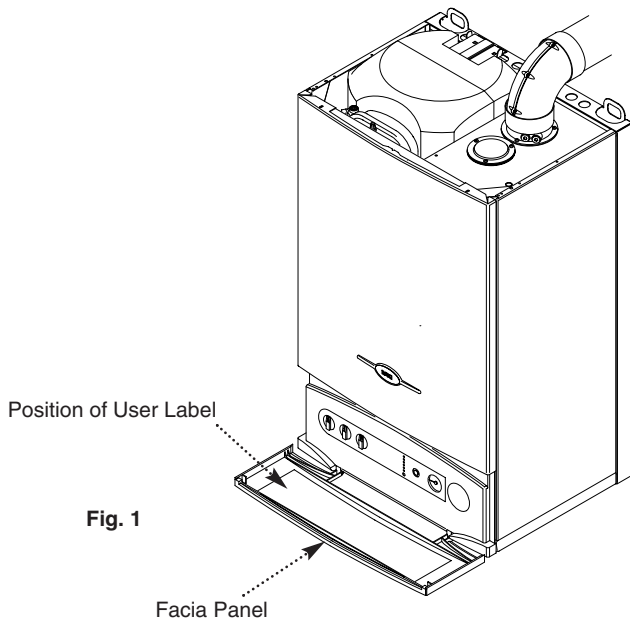

Fig. 1
6. A label giving details of the model, serial number and Gas Council number is situated on the rear of the fascia panel (Fig. 1).